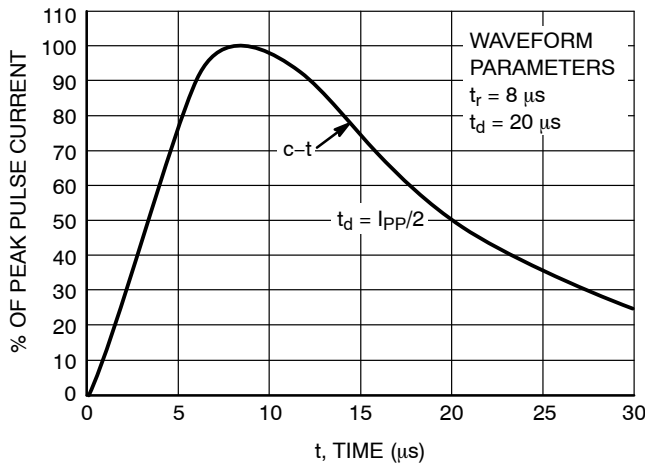

Figure 1. Pulse Waveform, IEC 61000-4-5 8/20  $\mu\text{s}$
1. Non-repetitive current pulse per Figure 1.
4. Pulse waveform per Figure 1.